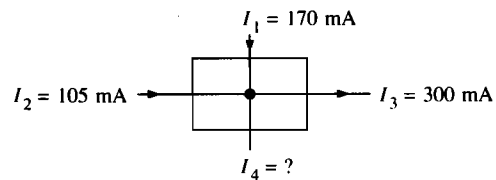

Figure 9–5
4. The known currents for a circuit junction are shown in Figure 9–5. What is the value and direction of the unknown current, I_4 ?